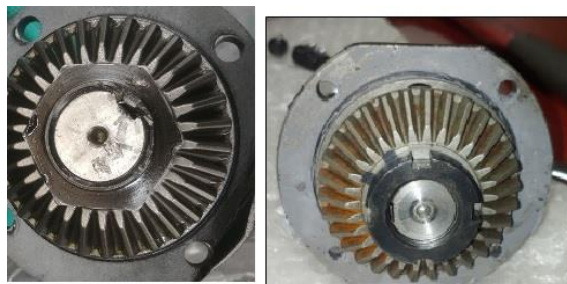

Figure 114
2. Remove the nut from the end of the shaft. Note: There are two different style of nuts. One is locked by stacking the nut in the keyway and the other has a keeper that locks the nut in place. Both styles are adjusted the same way. Figure 114